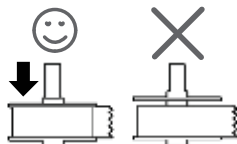

Figure 8
- 5 Place the spool guide onto the right side of the spool and press the guide tightly against the side of the label roll, **leaving no gap** between the roll and the spool. See Figure 8.